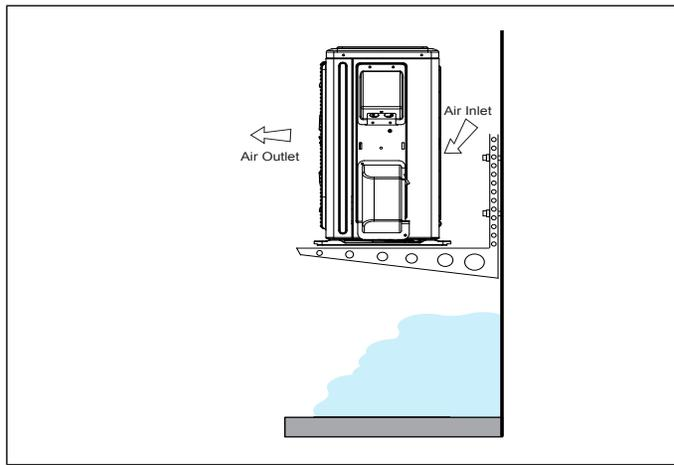

Figure 24. Outdoor Unit on Brackets above Snow Line
- The unit base should be elevated above the depth of average snows as illustrated in "Figure 24. Outdoor Unit on Brackets above Snow Line".